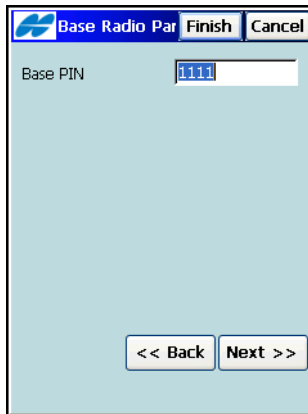

Figure 3-12. Base Cell Phone Parameters
- For Cell Phone Modems – *Internal HiPerXT (GSM), Internal HiPer (GSM), Internal GR-3(GSM), Internal GR-3 Satel(GSM), Motorola V60 Cell Phone, Motorola V710 Cell Phone, MultiTech GSM/GPRS Modem, Siemens TC35 Modem, Siemens M20 Modem, Nextel i58sr Cell Phone, Nokia Cell Phone and Wavecom Fastrack GSM*. The **Next** button on the **Base Radio** screen opens the **Base Radio Parameters** screen (see Figure 3-12 on page 3-15).
For the cell phone the screen contains the following parameters (Figure 3-12 on page 3-15):